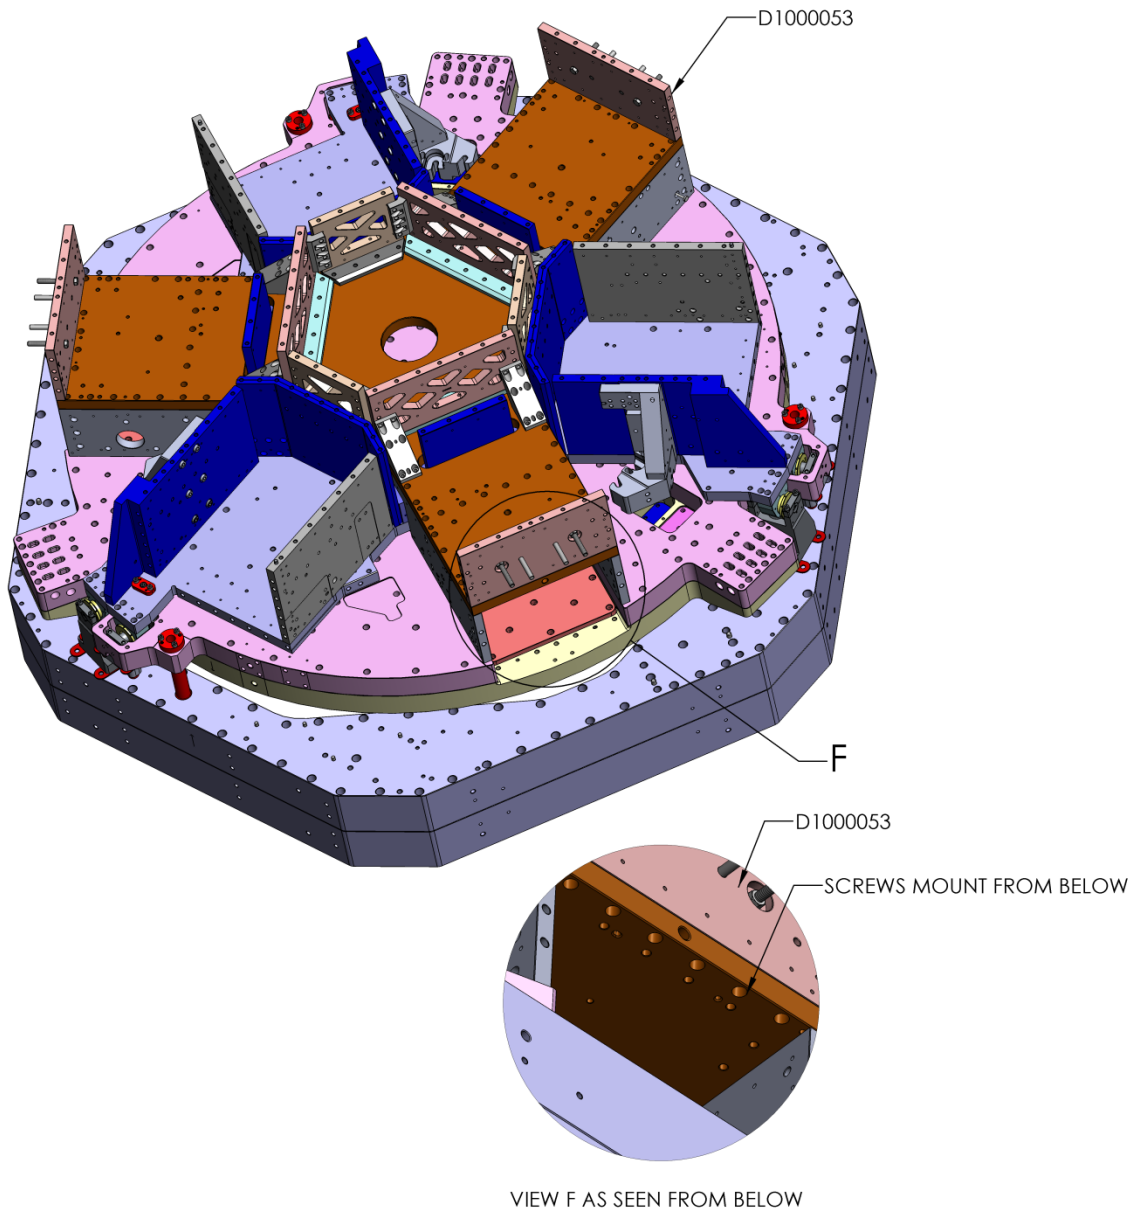

Figure 58: Screws positions to attach the outer upper wall to the mid plate
- Locate D100053 Upper Outer Wall Assembly on D0901520 Stag2 Mid Plate with the (2) pins already installed in D091520 (see Figure 58). Make sure pins seat properly into mating hole and slot.